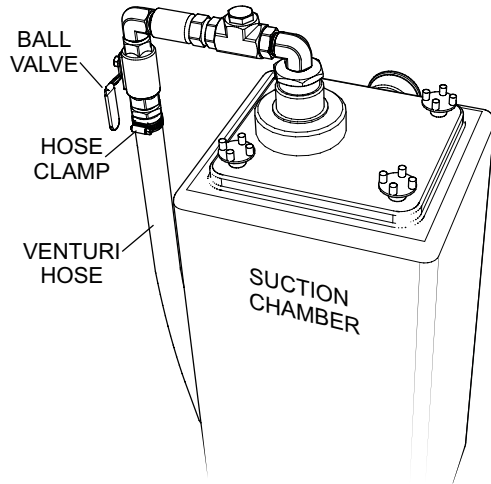

Figure 42. Venturi Hose Disconnection
1. Using a flat blade screw driver, disconnect the hose (Figure 42) connected to the suction chamber ball valve.